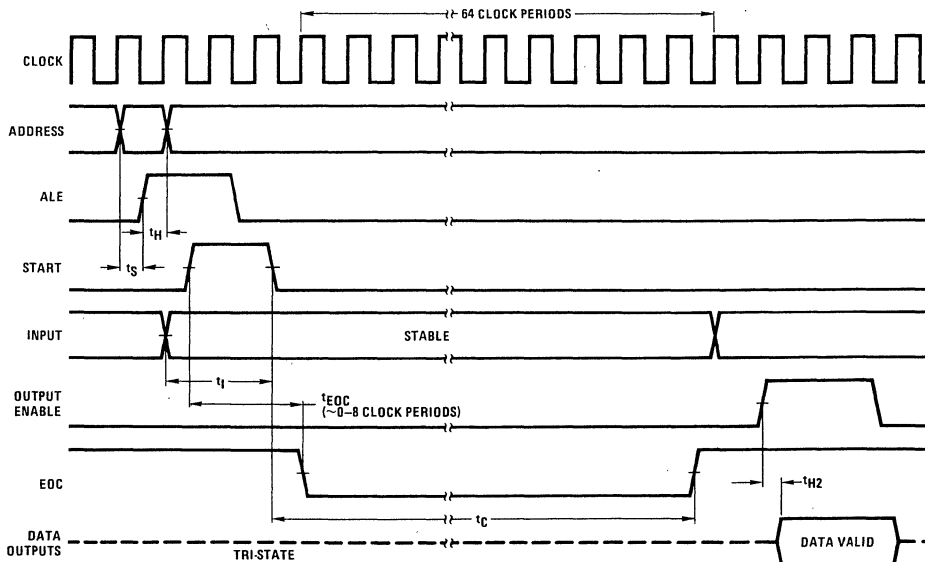

FIGURE 2. ADC0808/ADC0809 Timing Diagram
Once EOC does go high this signals the interface logic that the data resulting from the conversion is ready to be read. The output enable (OE) is then raised high. This enables the TRI-STATE outputs, allowing the data to be read. Figure 2 shows the timing diagram.